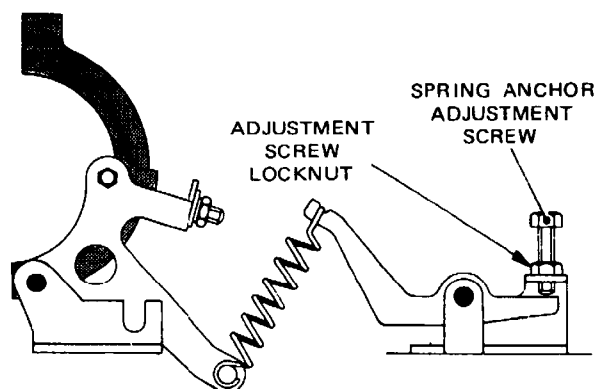

Fig. 4.120 PRINT SPRING MECHANISM
- 128.2 To adjust, slacken the locknut securing the print spring anchor adjustment screw, Fig. 4.120, and turn the screw (clockwise to increase, or